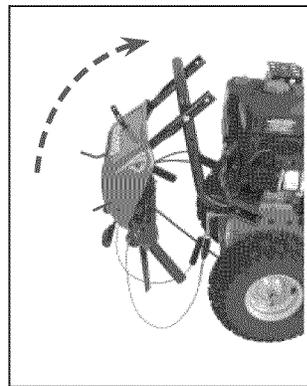

**Figure 3. Snowthrower - Shipping Position**
1. Remove banding from crate. Open carton completely by cutting each corner from top to bottom as shown in Figure 3.